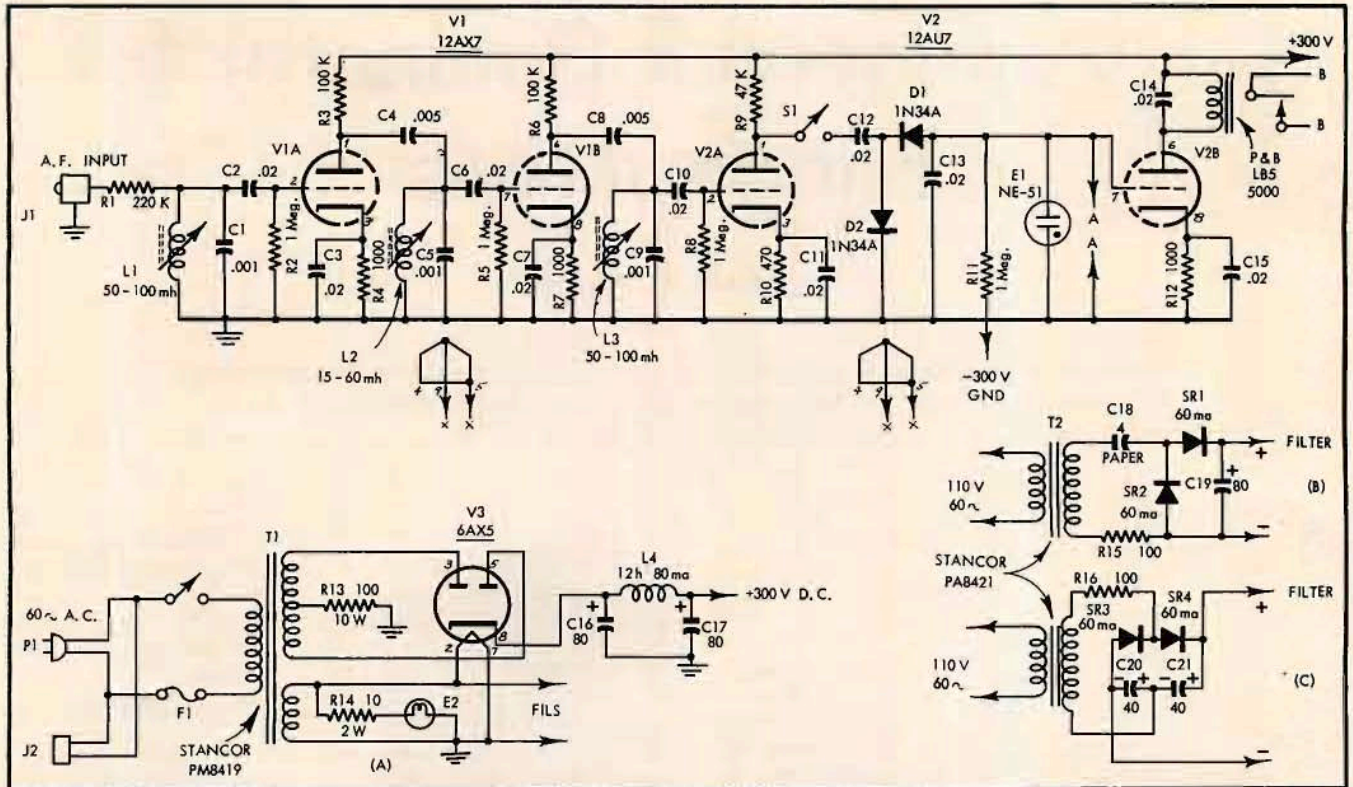

Fig. 2. Circuit of sensitive 20-kc selective amplifier, with two output modes and three optional power supplies.
Circuit of this selective amplifier, with alternative output modes, and two alternative power supplies, is shown in *Fig. 2*. Several other rather obvious alternatives can be used without impairing operation of the device, which has no critical adjustments except tuning.
Power-supply requirement is approximately 6.3 volts at 0.8 amperes for filaments and pilot and 300 volts at 20 ma for plates. This can safely be "robbed" from many receivers. Where this is not possible or desirable, a separate power supply must be provided. That shown at (A) in *Fig. 2* works excellently, but is much larger than necessary. Alternative plate circuits shown at (B) and (C) work well, and not only use an electrically smaller transformer, but also generate much less heat. An electrolytic capacitor can be used in place of the 4 μ f paper capacitor shown at (B), but a larger capacitance is usually necessary,
Construction is entirely straightforward, and not only requires no special techniques, but component arrangement can be modified to suit individual conditions and tastes without affecting performance. The model illustrated, which has both bias and relay outputs, and an oversize power supply, was constructed on a 7" by 12" by 2" Seezak chassis. With single output mode and either of the alternative power supplies shown in Fig. 2, a chassis 5" by 9" by 2" will be more than adequate.
Connect this oscillator to the input of the amplifier, remove the output pilot bulb from its socket, and connect a VTVM across points A-A (Fig. 2). Adjust the inductance of the coils for maximum output, starting with the third coil, and proceeding down the line. When output appears maximum, run through
The input to this amplifier is normally connected to the FM detector output, ahead of the de-emphasis network. The bias output of the amplifier can be connected to the grid circuit of the first a. f. tube of the receiver as at (A) in Fig. 7. This connection is made by lifting the grounded end of the first a. f. grid resistor, and inserting a 470 k resistor between the free end of the grid resistor and ground. The junction of the two resistors is connected to the "hot" "A" terminal in Fig. 2, and ground of the receiver is connected to ground of the amplifier. The resistor is inserted here so that the receiver will work whether or not the commercial suppressor is connected.
If relay control of the speaker is desired, in place of bias control of the first a. f. stage, the ungrounded speaker line is opened, and connected to points B-B in Fig. 2. With this connection, the speaker functions normally as long as no "beep" tone is present, but is open-circuited whenever the 20-kc signal is
terminals B-B of Fig. 2 may be connected across the speaker, as in Fig. 7, C. With this connection, the speaker is shorted at all times when the 20-kc tone is absent, but operates normally when the "beep" signal is present.